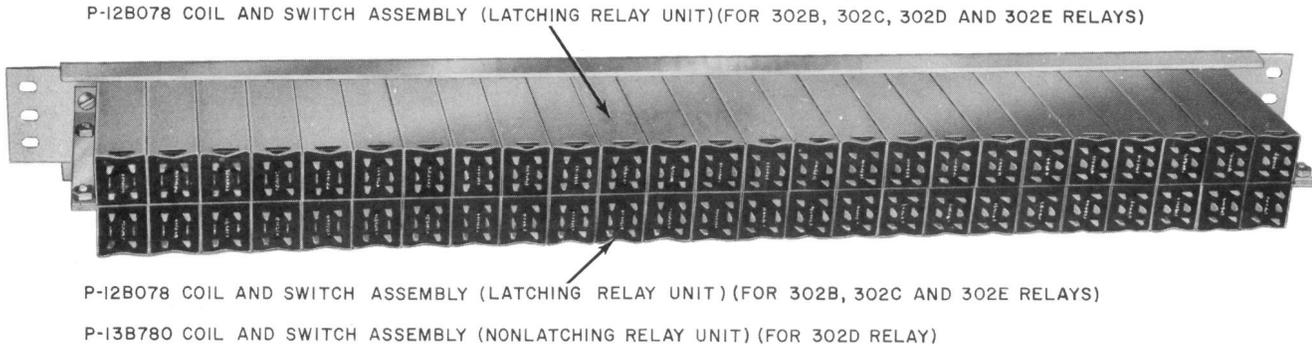

Fig. 1—302-Type Relay (302B Relay Shown)
- Revise Fig. 1.
1.03 Part 2 of this section covers the piece-part numbers and the corresponding names of the parts which it is practicable to replace in the field in the maintenance of 302-type relays (Fig. 1). No attempt should be made to replace parts